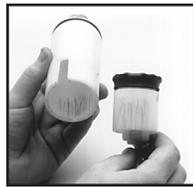

Figure 3.
3. Check the inside of the piston and cylinder for scratches. If the piston or cylinder are scratched, replace. Figure 3.